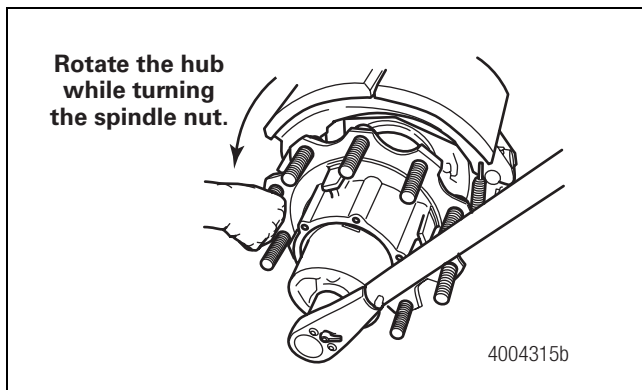

Figure 4.44
6. Tighten the spindle end nut to 810-850 lb-ft (1100-1150 N•m) while rotating the wheel and hub in a **COUNTERCLOCKWISE** direction. Do not back off the nut after tightening. Mark the nut location relative to the spindle. Figure 4.44. **🔧**